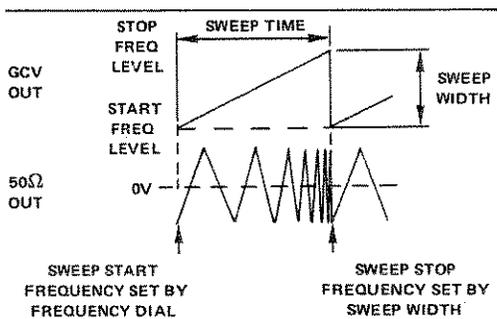

Figure 3-2. Effect of Sweep Time and Width on Output Frequency
The SWEEP WIDTH control determines the amount of frequency change that will occur in sweep mode. After the sweep start frequency is set by the frequency dial ②, SWEEP WIDTH determines the sweep stop frequency (see figure 3-2).
Frequency of the internal sweep ramp, and thus, the sweep repetition rate, is governed by the SWEEP TIME control (see figure 3-2).